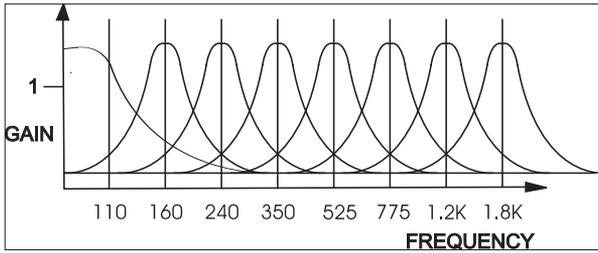

Figure 7 - BASS Frequency Response
6) Now turn all the sliders down except the lowest one. While playing your instrument, turn each slider up one at a time, while the rest of the sliders are all the way down. Pay careful attention to the sound of each filter. When you have learned the sound of each individual filter, try various combinations, such as the bottom two and top two. At this point you will want to repeat steps 5 and 6 with the FREQ slide switch moved to the BASS voicing position. Figure 7 shows the frequency response of the 8 filters in the BASS voicing setting. This will familiarize you with the sounds of the two voicings. Note that even without Animation, the MIDI MuRF is a VERY POWERFUL filter bank with many possibilities to sculpt your tone!